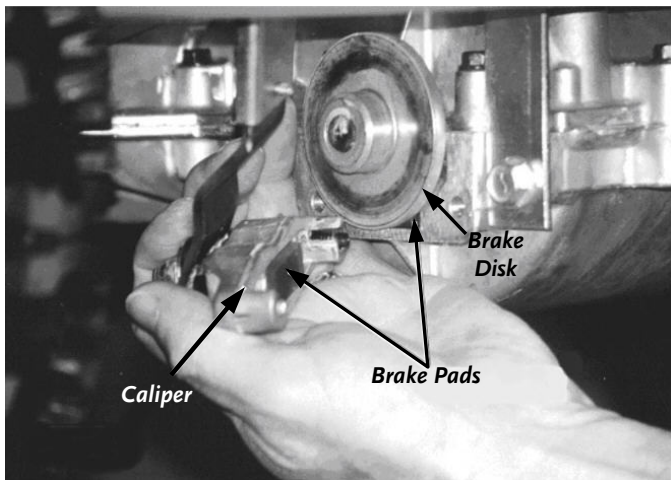

Figure 22
**NOTE:** The Caliper contains four (4) small parts: the Brake Pad, the Backing Plate, and two (2) small Actuator Pins (**Figures 22 and 23**). As you let the Caliper hang from its attaching hardware, keep track of these parts as they could fall out. Clean away any debris from these parts and the inside of the Caliper.
3. Pull the Brake Disc off the keyed Shaft (**Figure 22**) being careful not to lose the Shaft Key.